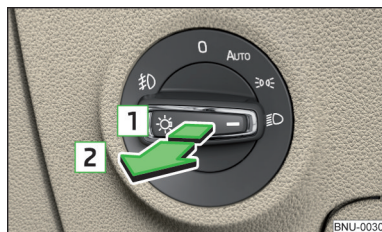

Fig. 66
- ✓ The light switch is in position **AUTO**, \rightarrow or \rightarrow » Fig. 66.